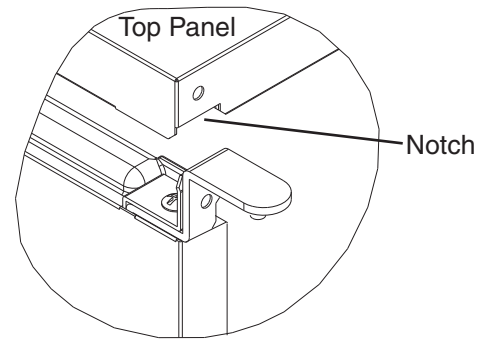

**Fig. 3**
- 3) Remove hinge (A) and the bracket from the right side of the appliance and the top brace from the left side. Rotate hinge (A) to position the gasket notch to the inside, then fasten hinge (A) and the bracket to the left side and the top brace to the right side. See Fig. 3.